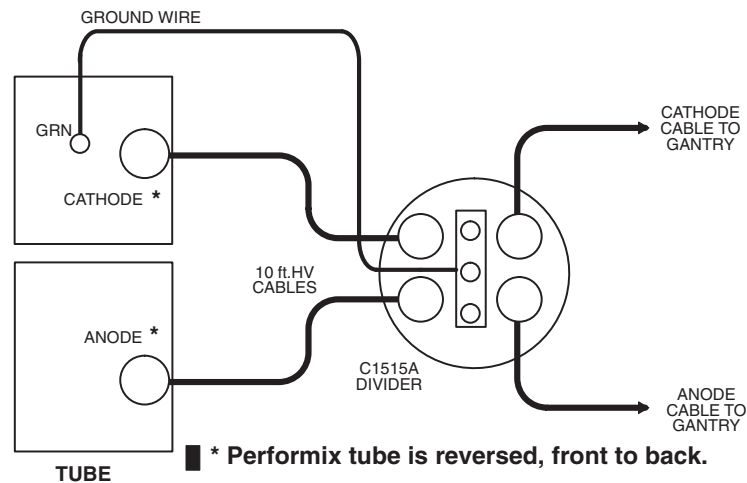

Figure 37 - HV Divider Installation
- 2.) Add a ground wire (minimum size of AWG 12) from Tube ground to bleeder ground. Refer to Figure 37.
- d.) Remove the **HV** Divider between the Tube and Tanks (Figure 37, on page 39).